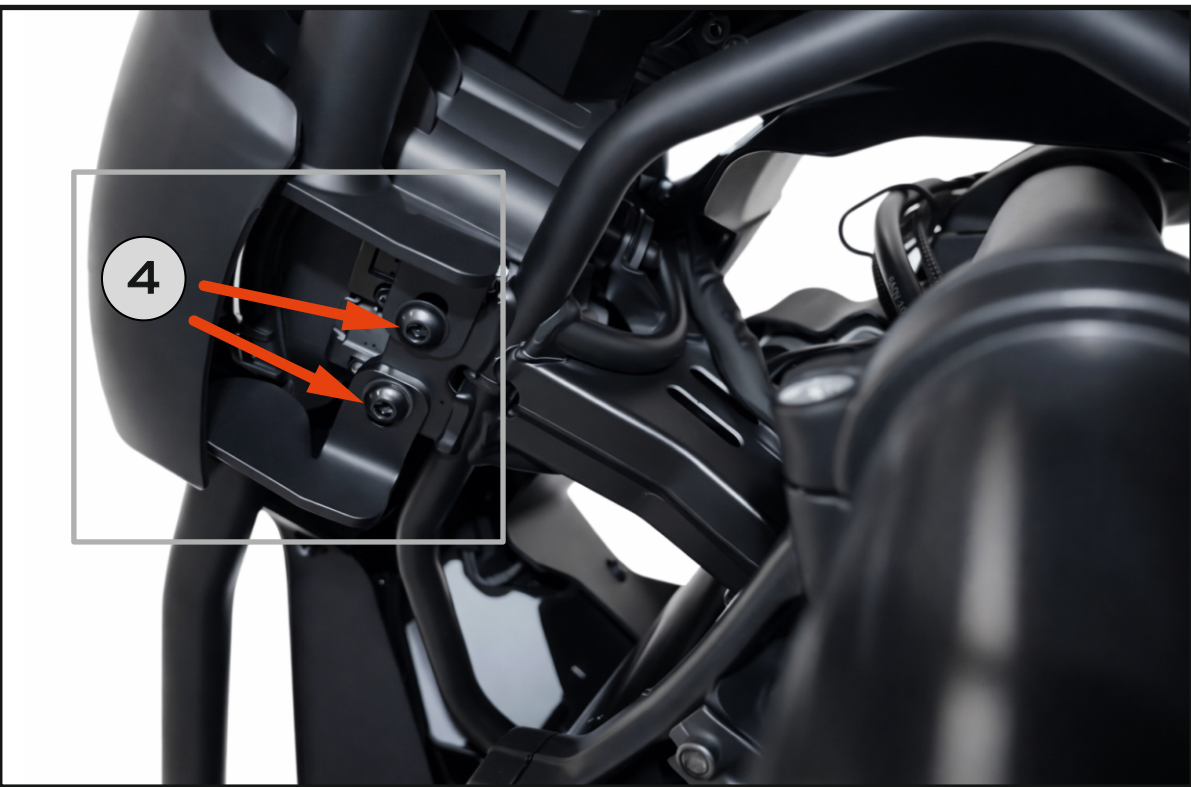
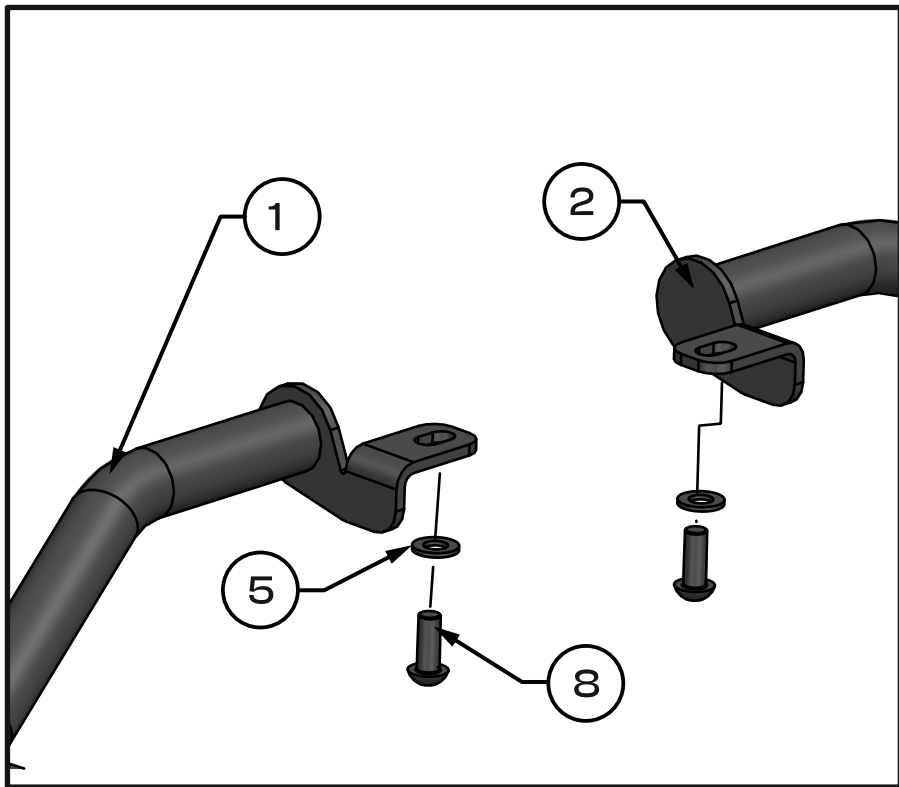

Fig. 4
Fig. 5
2. Mount the crash bars on both sides as shown in the drawing using bolt [7], washer [5], and sleeve [4]. [Fig. 3], [Fig. 4]
3. Mount the crash bar at the second mounting point using the supplied bolt [9] and washer [5]. [Fig. 3], [Fig. 5]
4. Mount both crash bars to the mounting points under the headlight using the bolts **[2]** and washer **[5]**. **[Fig. 4], [Fig. 5]**